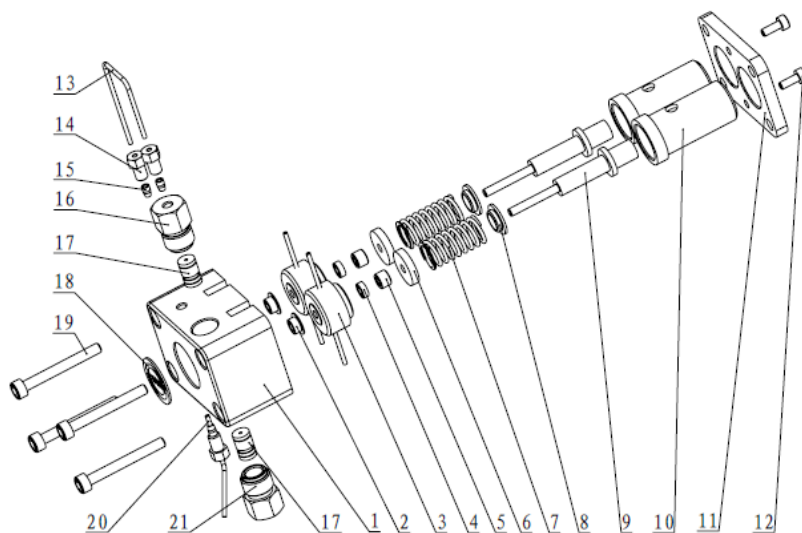
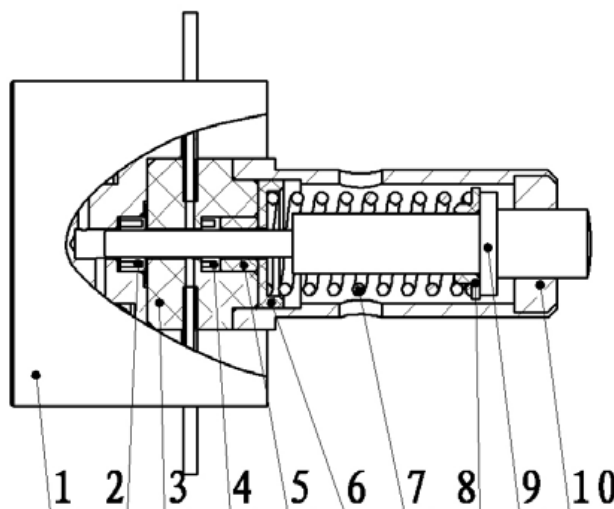

Figure 4-3: pump head assembly
Figure 4-4: Cross-section of sapphire plunger
- 4) When installing the pump head, pay attention to evenly tighten four fixed screw, refer to figure 4-3.
Pump head disassembly and installation methods are as follows(Refer to figure 4-3,figure 4-4):
- 1) Place the pump head body on a flat surface. Using 2.5# hexagonal key, unscrew the 2 mounting plate screws, #12 on Figure 4-3, remove the clamp(10#)
- 2) Unload the sleeve(figure 4-3,#10), plunger rod components(figure 4-3 #9), plunger spring(figure4-3#7), locating sleeve(figure4-3 #3) etc..
- 4) Take out the primary seal carefully(figure4-3 #2)(user should not remove it unless replace a new one is needed).
- 5) Put the new primary seal(the openings with spring should be in the direction of the pump head) into the pump head body(figure 4-4 #1).
Place all parts in order according to figure 4-4, install the pressure plate.